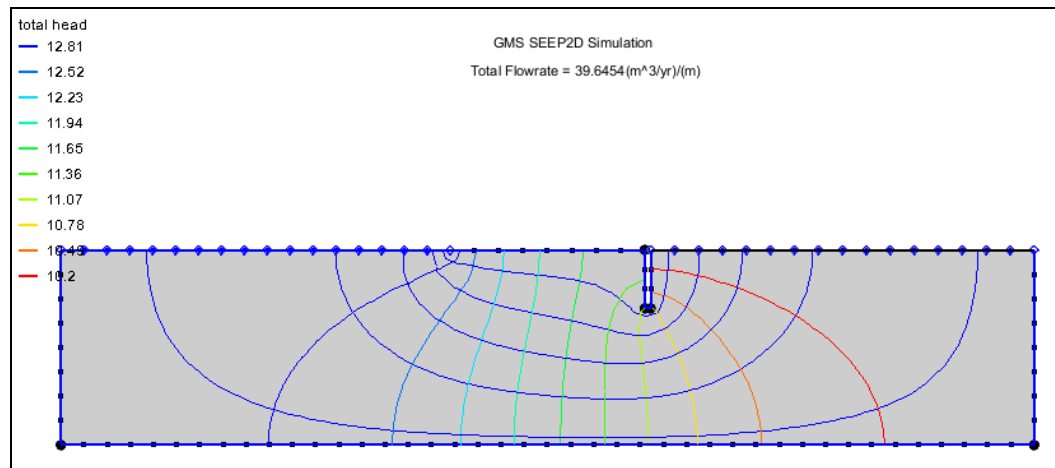

Figure 15 The final view
8. Click **OK** to close the *Display Options* dialog. The display should appear similar to Figure 15.